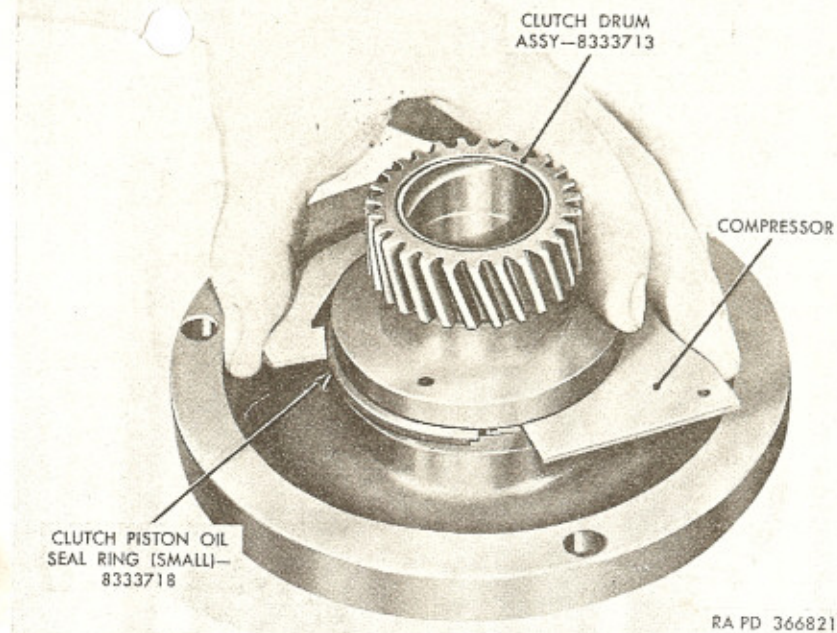

Figure 112. Installing small oil seal ring on clutch drum using compressor—C8708711.
e. Position front clutch drum assembly (J) on bench, gear end up; then use fingers to install clutch piston small oil seal ring (G) in groove of clutch drum. Expand oil seal ring only enough to make installation.
f. Place clutch piston oil seal ring compressor—C8708711 (fig. 112) on ring with edge of compressor near end of ring.
f. Place compressor—C8708711 (fig. 112) on oil seal ring, with edge of compressor near end of oil seal ring.